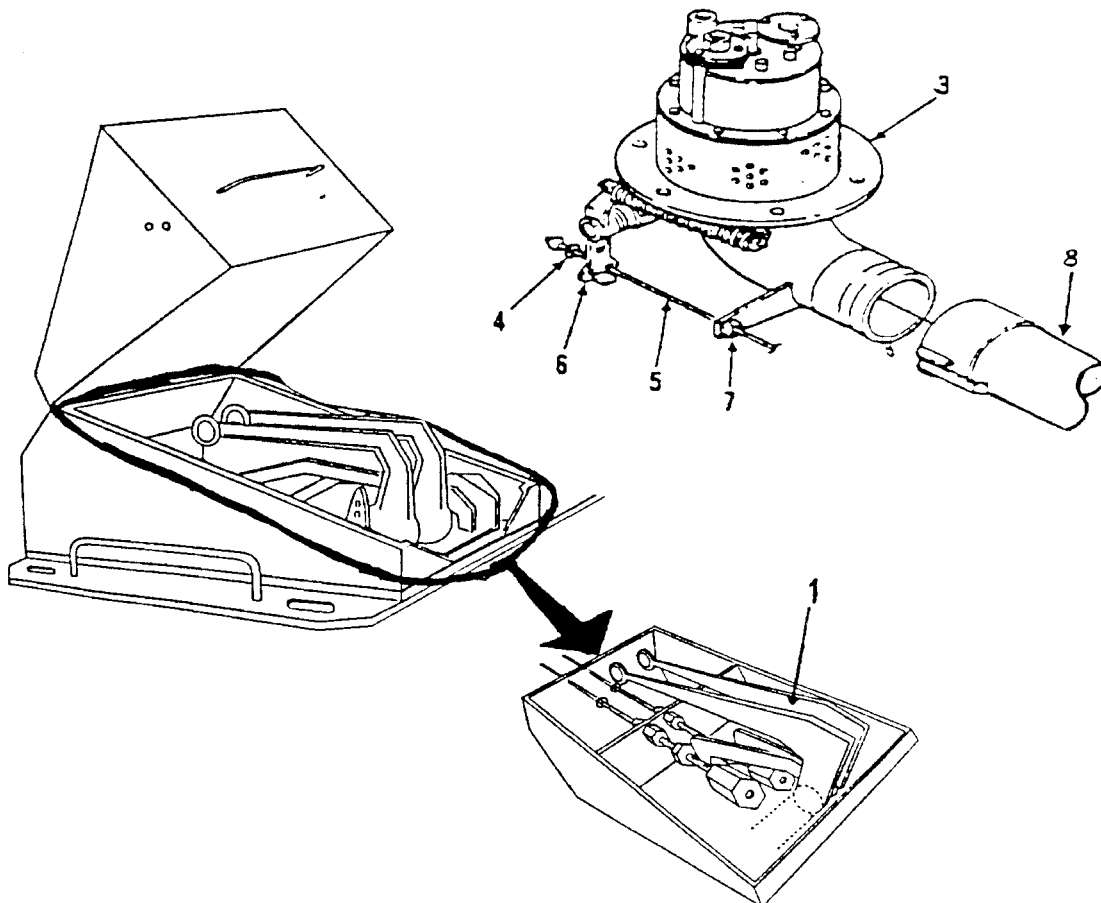
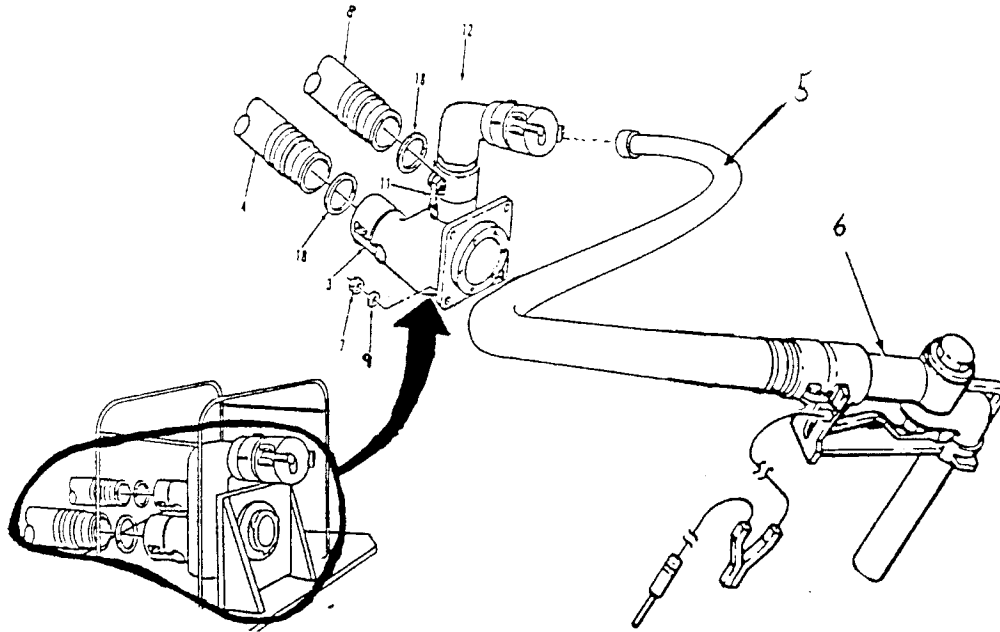

Figure 2-1 " Dispensing Unit Operating Controls "
Figure 2-2 " Dispensing Unit Operating Components "
**2-2. Operator's Controls.** Operator's controls are shown in Figure 2-1. The control lever assembly allows for the starting and stopping of fuel flow from the tank. When the control lever (1, Figure 2-1) is pulled up (ON or OPEN position), the Tank bottom loading valve (3, Figure 2-1) opens and allows fuel to flow through the hose (8, Figure 2-1) that connects to the Unit Fuel Manifold bottom loading valve.
**2-3. Operator's Components.** Hose (5, Figure 2-2) is connected to the front of the Unit bottom loading valve (12, Figure 2-2) and nozzle (6, Figure 2-2) is connected to hose for dispensing fuel. When the lever is pushed down (OFF or CLOSED position), the bottom loading valve at the tank closes, stopping fuel flow. The lever is shown in the OFF or CLOSED position in Figure 2-1.